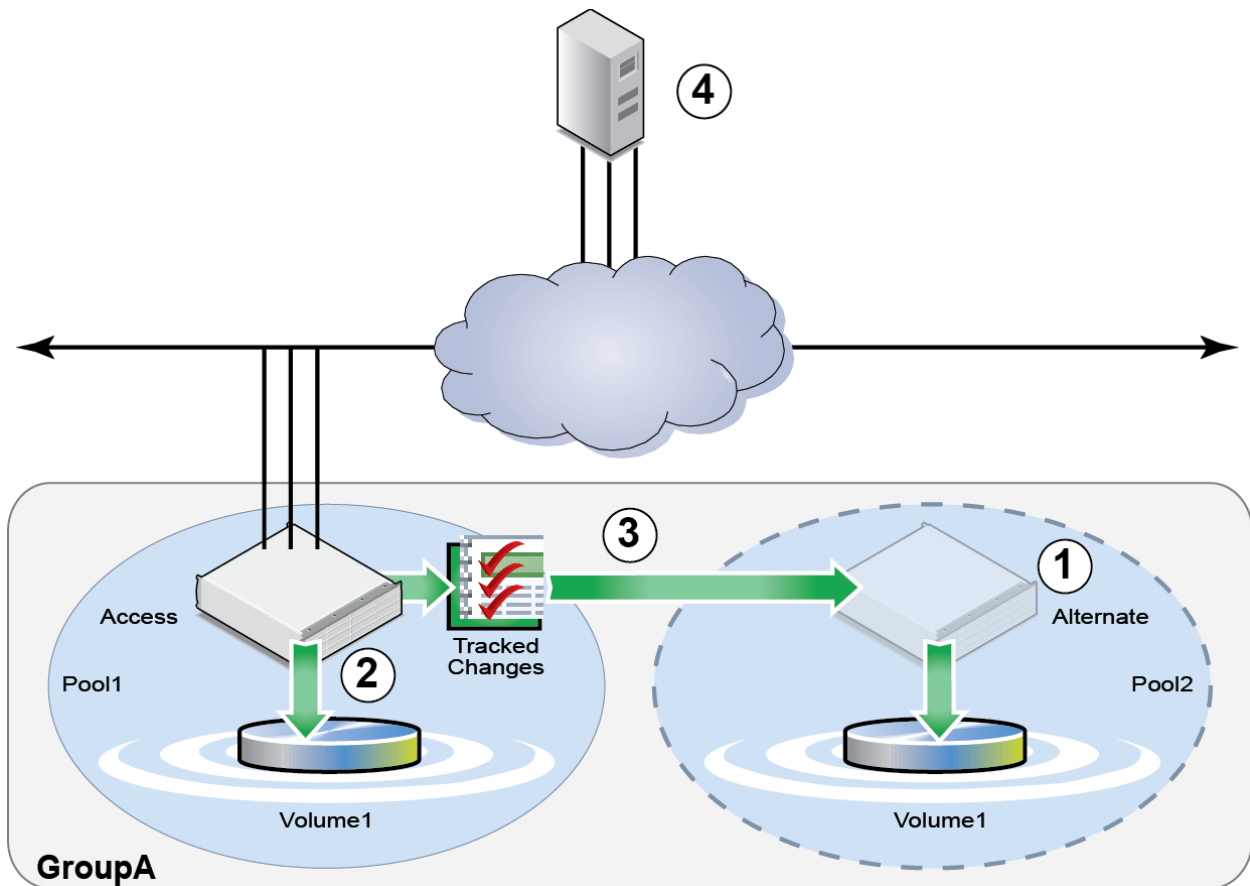

Figure 17 Tracked changes written to the SyncAlternate volume
3. New writes are simultaneously written to both the SyncActive and SyncAlternate, and normal SyncRep operations resume as shown in Figure 17.